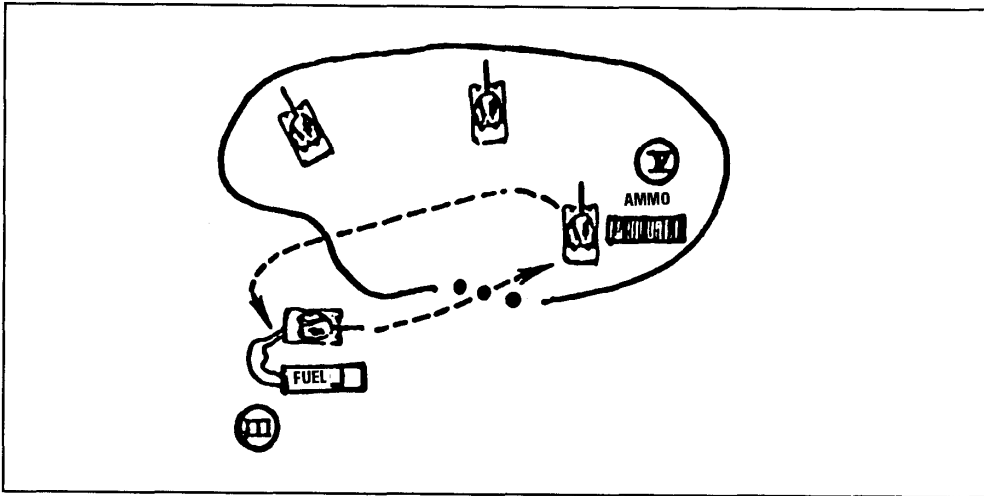

Figure 8-3. Pre-positioned supplies, method 1.
**Method 1.** Class V supply is located in one place inside the assembly area or BP (see Figure 8-3). Each vehicle pulls into the central area to upload ammunition and rations, if any are pre-positioned. Pre-positioned fuel tankers are set up at the rear of the position, and refueling is done using the service station method.